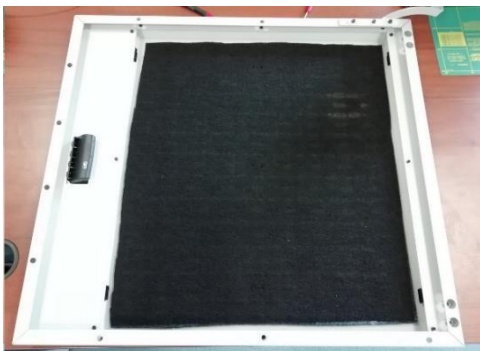

Fig. 15 Inserting a new filter
8. Replace the old filter with a new one (Fig. 15).